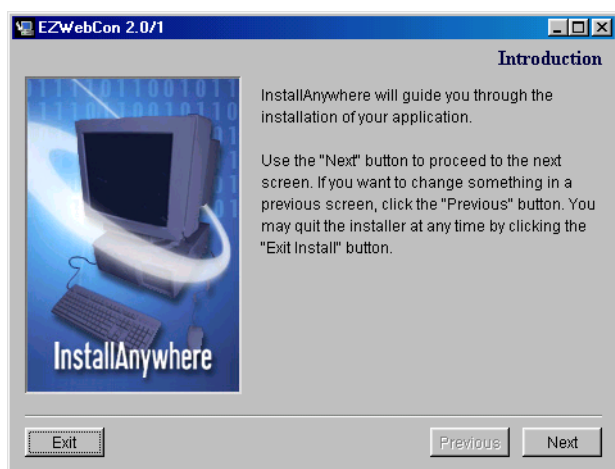

Figure 3 - EZWebCon Software Installation
1. Place the Lantronix CD-ROM into the server workstation's CD-ROM tray. Using the autorun feature of the operating system the CD will automatically open its Tools and Support window (see Figure 3). If it does not, browse the CD and locate the **ezwebcon.exe** program. Double-click on the **ezwebcon.exe** program name and the EZWebCon program window opens.